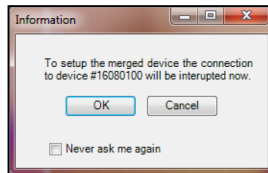

Fig. 117 Interrupt merged device
- ➡ Confirm this message with `OK`, see Fig. 117.